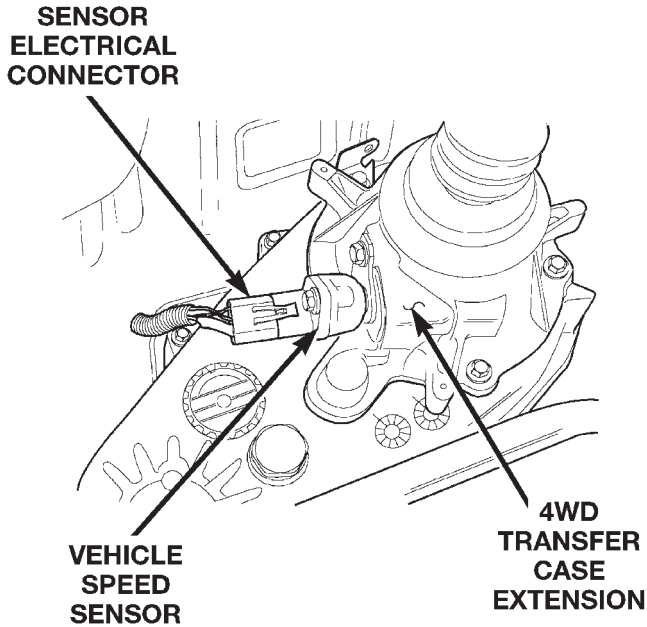

Fig. 25 Vehicle Speed Sensor—Typical
(22) Inspect for pinched or leaking fuel tubes. Inspect for pinched, cracked or leaking fuel hoses.
(23) Inspect for exhaust system restrictions such as pinched exhaust pipes, collapsed muffler or plugged catalytic convertor.
(24) If equipped with automatic transmission, verify that electrical harness is firmly connected to park/neutral switch. Refer to Automatic Transmission section of Group 21.
(25) Verify that electrical harness connector is firmly connected to the vehicle speed sensor (Fig. 25).
(26) Verify that fuel pump/gauge sender unit wire connector is firmly connected to harness connector.
(27) Inspect fuel hoses at fuel pump/gauge sender unit for cracks or leaks.